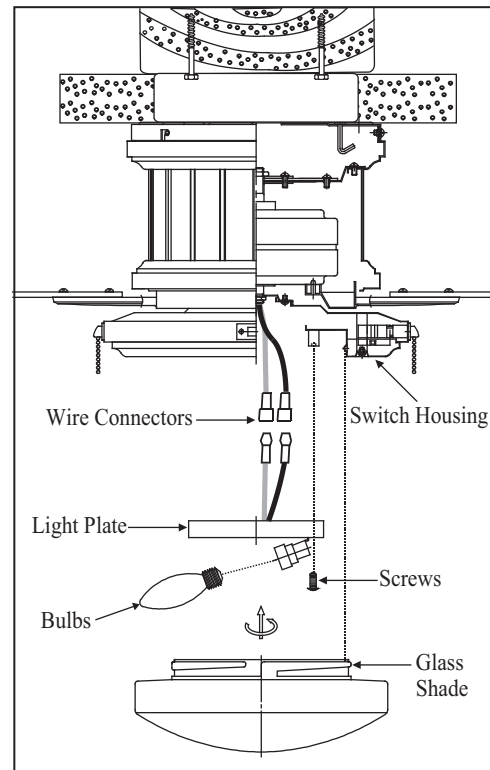

Figure 12
(Fig. 12)
4. Raise glass shade up against the light kit and secure it to fan by turning glass clockwise until snug. DO NOT OVERTIGHTEN. (Fig. 12)